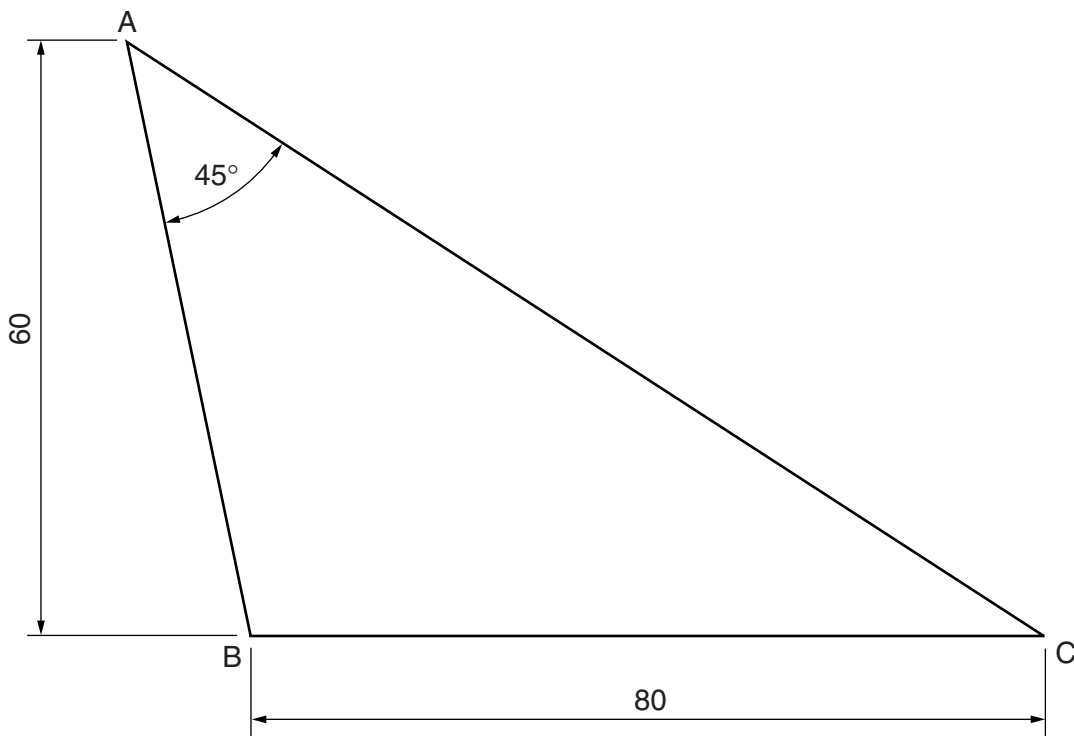

Fig. 1
- 1 (a) (i) Construct the triangle ABC shown in Fig. 1. [4]